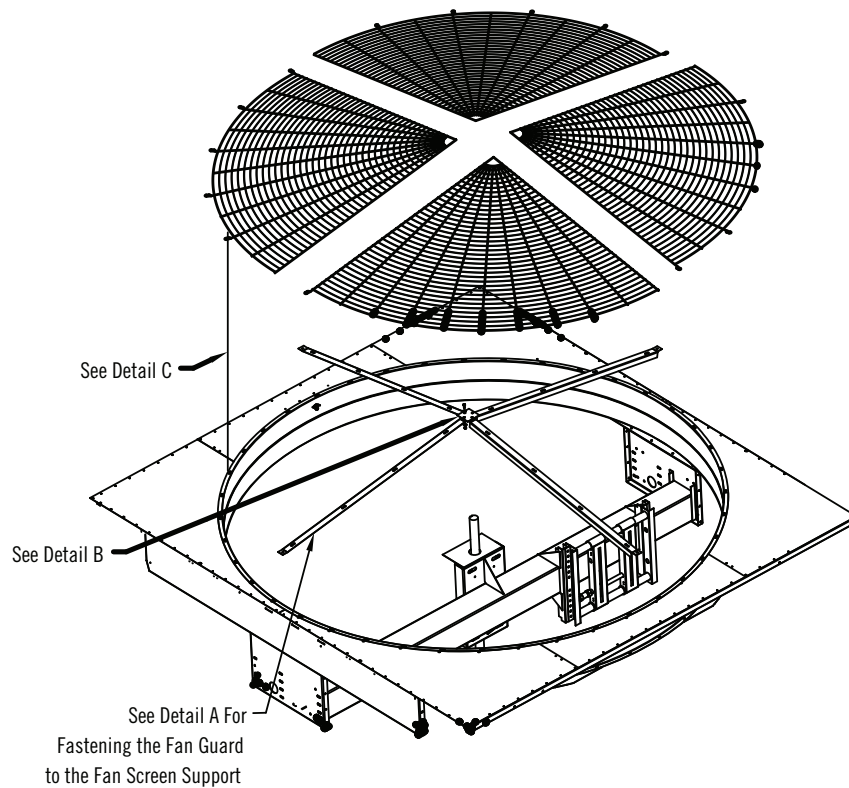

Figure 15. Four-Piece Fan Guard Assembly
1. Assemble fan guard supports as illustrated in **Figure 15, Detail A**.
2. Secure fan guard pieces to fan guard supports as shown in **Figure 15, Detail B**.
3. Mount fan guard assembly to unit as shown in **Figure 15, Detail C**.